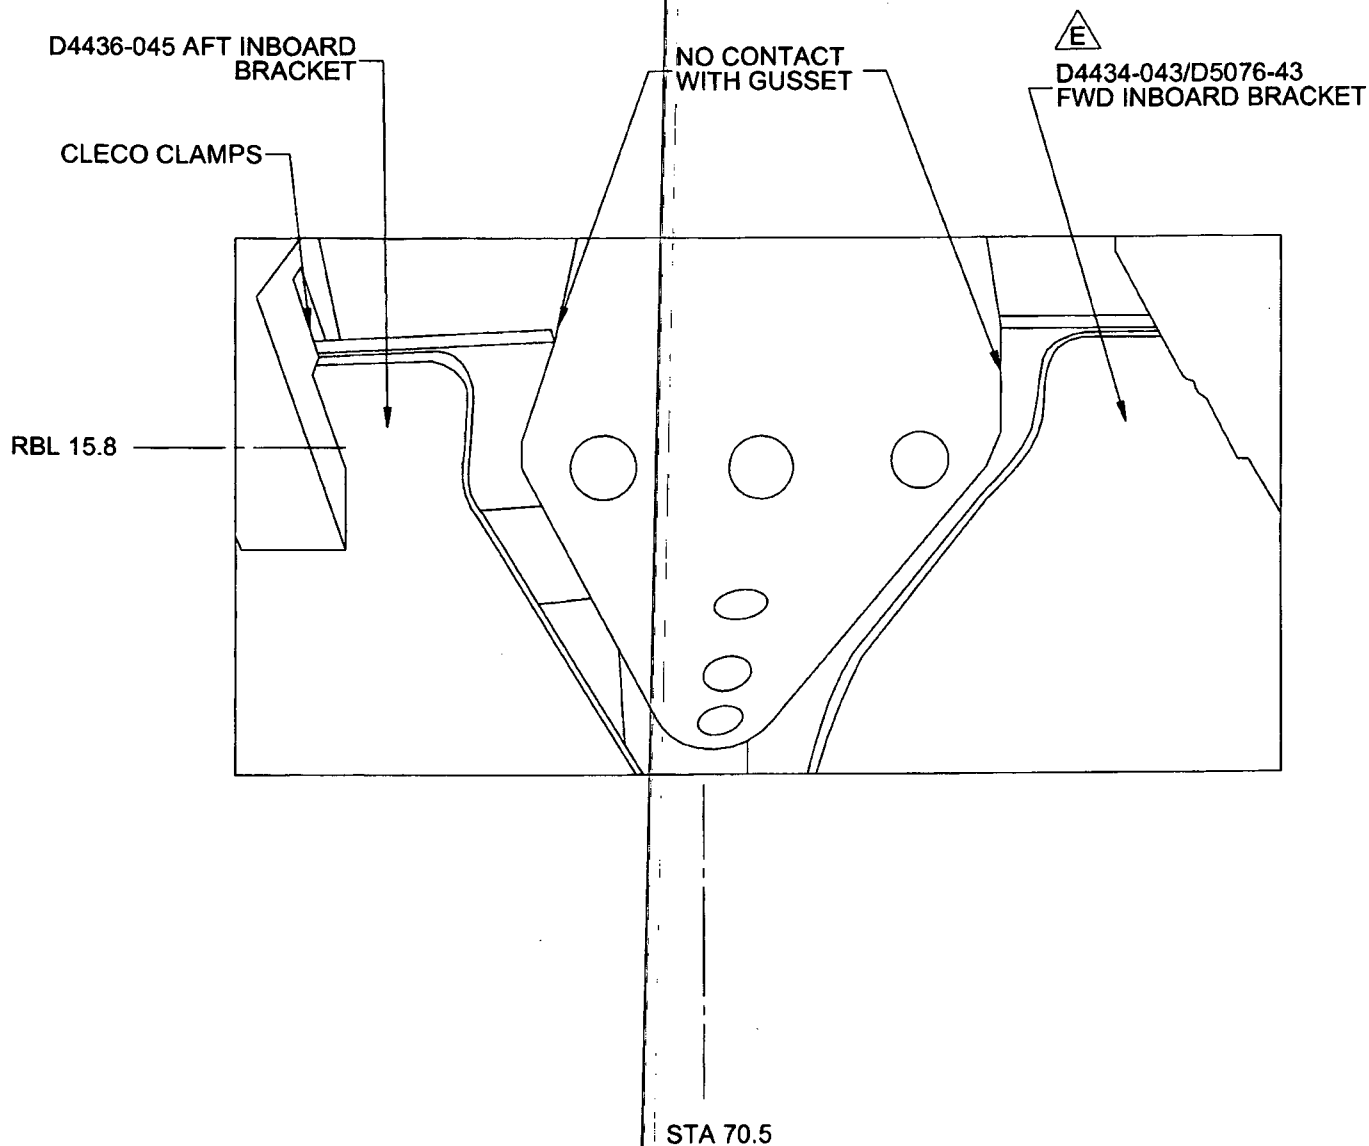

Figure 5. D4436-045 & D4434-043/D5076-043 Brackets Installation
4.2 Temporarily install D4434-043/D5076-043 Fwd Inboard Bracket and D4434-045 Fwd Outboard Bracket using clecos and cleco clamps. Confirm there is no contact between D4436-045 Aft Inboard Bracket and D4434-043/D5076-043 Fwd Inboard Bracket and main beam gusset as shown in Figure 5.